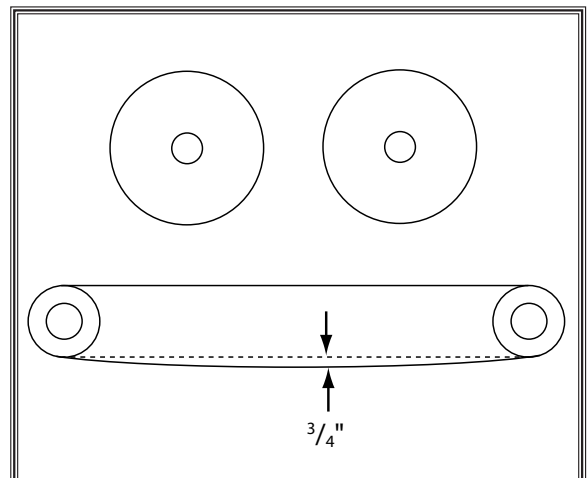

Figure 48. Conveyor belt hanging gap.
2. Measure the distance from the frame to the conveyor roller on both sides. Turn the adjustment bolts so the distance between the frame and conveyor roller is identical on both sides. Do not overtighten the conveyor. Your goal is to reach a $3/4$ " gap between the underside of the conveyor and the belt, as shown in **Figure 48**.